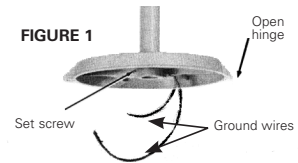

FIGURE 2
1. Pass cable through the Kwik-Loc adjustment hole in the direction of the arrows (see Figure 2).